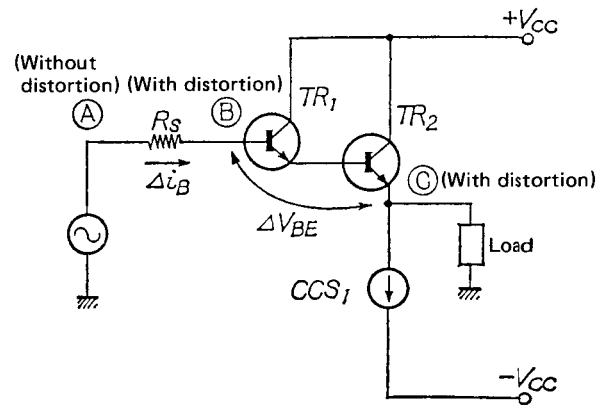

Fig. 2 Distortion in emitter-follower
In the power stage, the voltage, current and junction temperature (heat generation) vary acutely so that the current amplification factor ( $\beta$ ) of power transistors or the voltage between base and emitter ( $V_{BE}$ ) changes with distortion. Normally, in the emitter-follower, only the distortion ( $\Delta V_{BE}$ ) due to the exponential characteristic is noted (which occurs between (B) and (C) in Fig. 2). As the power stage is not driven by a constant voltage, the distortion between (A) and (B) due to the non-linear portion of change of the base current ( $i_B$ ) caused by  $\beta$  change cannot be ignored.